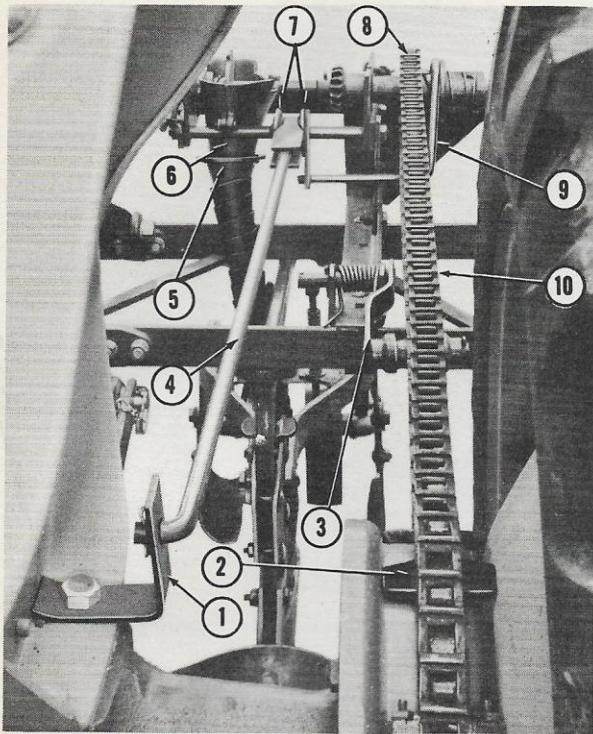

Figure 10
12. Place the drive chain (10) on the clutch sprocket (8), Figure 10, and run forward over the drive sprocket (2) on the tractor brake drum.
- b. Link ends of the chain together. Be sure slack side of the chain is over the clutch shift bar (9), Figure 10.
c. Position the chain idler (3) forward and under the slack side of the chain as shown in Figure 10.
13. Insert the tapered end of the clutch throwout rod (4), Figure 10, between the two large washers (7) on the left hand hopper horizontal support.
a. Insert the forward end of the clutch throwout rod (4) in the hole on the bracket (1) as shown in Figure 10 and secure with the cotter pin.
14. Place the collar end of each grain tube (5), Figure 10, on each grain spout (6). Push the collar up and turn to the right to lock it in place.